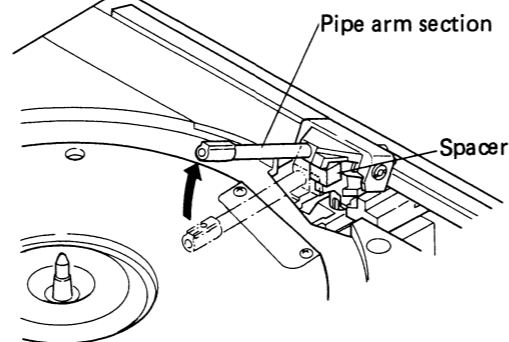

Fig. 3-4 Lift the pipe arm
4. With the tonearm shifted across to the center, lift the pipe arm section as high as possible (see Fig. 3-4), and insert a suitable spacer in between the elevation sheet and the pipe holder in order to keep the tonearm in the raised position.